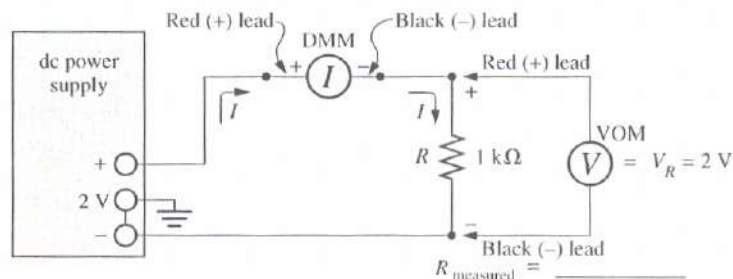

Figure 1.4
- (a). Reconstruct the circuit of Fig. 1.4 using $R = 3.3 \text{ k}\Omega$. Insert the measured value of R in Table and use this value for all the calculations.
That is, for an applied voltage E the current I (Figure 1.4) is applied to determine the resistance of the network.